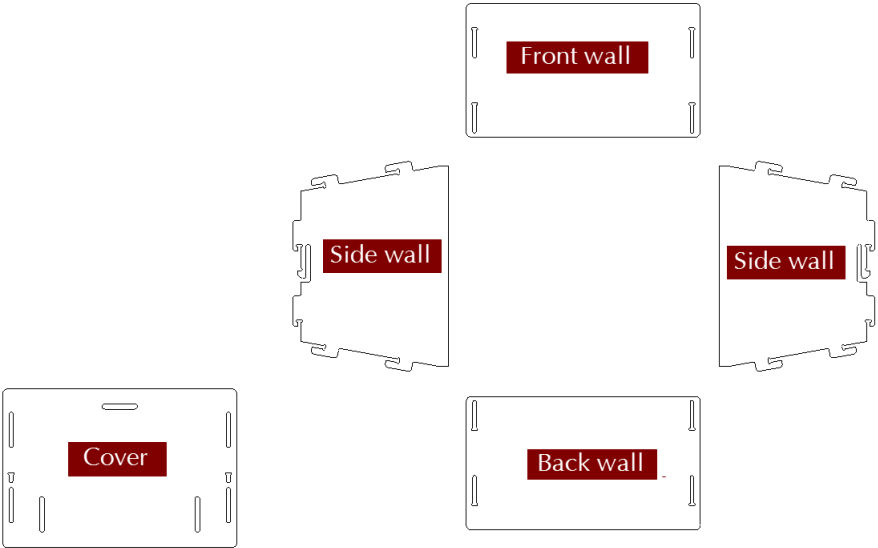
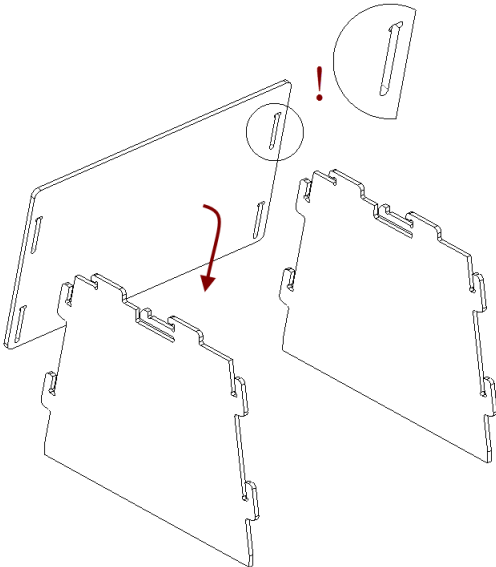
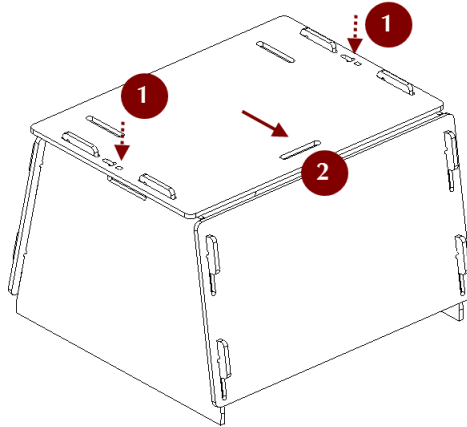

Figure 205: Parts of the scanner stand.
Figure 206: Assembling the front wall.
Figure 209: Latching the cover.
The scanner stand comes unassembled with Artec Spider and consists of five parts (see Figure 205): two side walls, one front and one back wall (these parts are identical, however), and a cover. Before beginning assembly, lay them all out as Figure 205 shows. Then follow these steps:
1. Raise the two side walls to the upright position, as Figure 206 shows. Noting carefully the orientation of the T-shaped slot, install the front wall to the side walls using the two pairs of hooks. Press the front wall and slide it down against the stop. Make sure the three walls are properly aligned with each other.
4. Press your thumbs against the T-shaped holes on the cover and shift it toward the back wall until you hear a click (see Figure 209).
Note: To disassemble the stand, release the detents in the cover's T-shaped slots (see Figure 205) using a thin object like a ballpoint pen. Repeat the assembly steps in reverse order (from Figure 209 to Figure 206), moving the parts in the opposite directions.